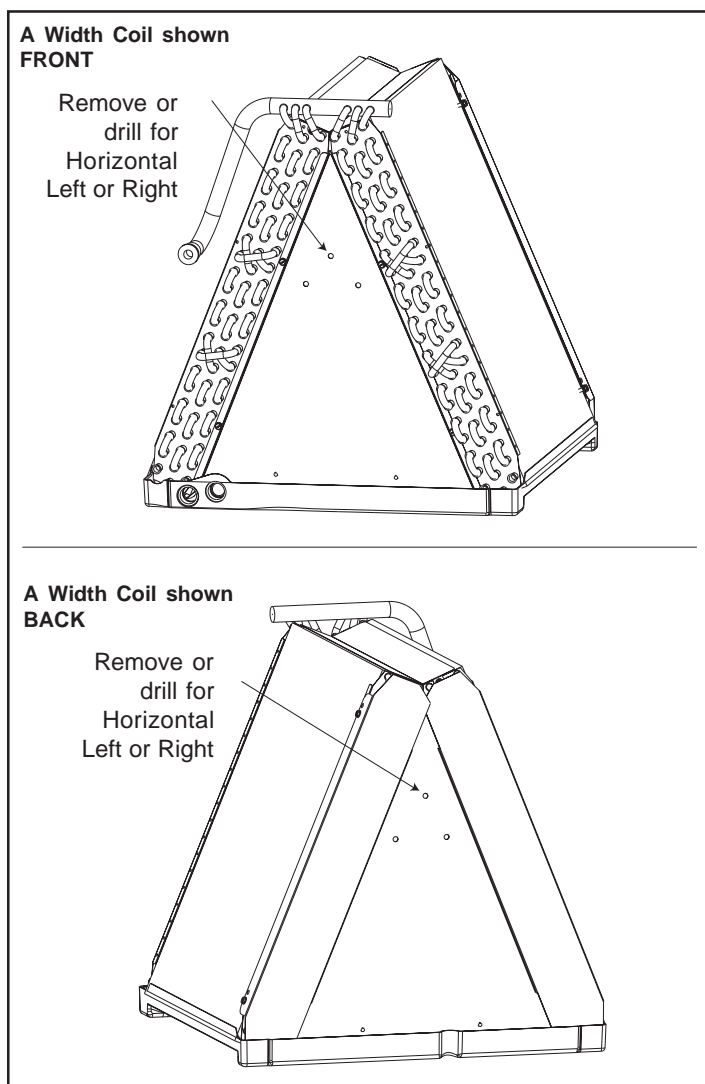

Figure 2
- 4) Remove the top knockout located above the two other knockouts on A width coils or the top knockout above the other single knockout on B width coils in both the front and back delta plates of the coil. If the top knockout is not present, use the drill template provided with this kit to locate the appropriate hole in the front and back delta plate. Use the drill size specified on the appropriate template and drill a hole in the front and back plate. (See Figure 2.)